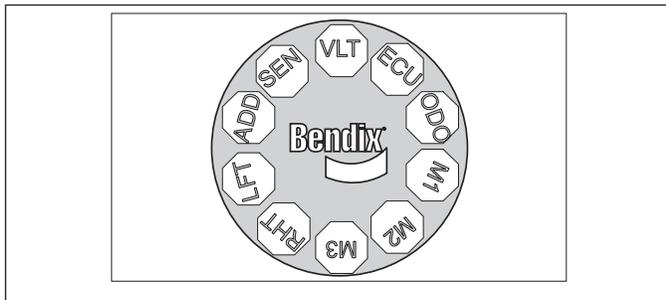

Figure 12 – The Bendix® TRDU Tool Display
If the ABS ECU has at least one (1) active DTC, the TRDU tool displays the first DTC by illuminating the red LEDs, indicating the malfunctioning ABS component and its location on the vehicle. See Figures 12 and 13.